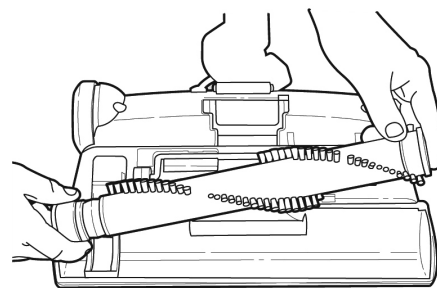

Figure 8
2. Insert a string around the brush roller close to the poly-v belt. Pull both ends of the string upwards so that the brush roller disengages from the base. Similarly, disengage the other end. (as shown in Figure 8)